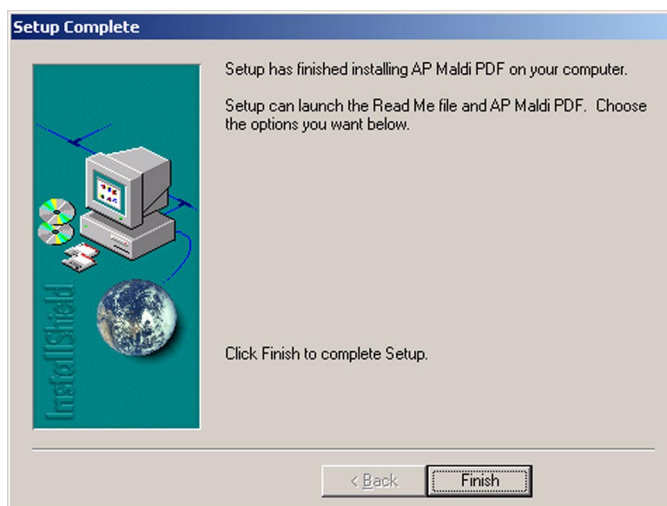

Figure 130 Target software setup completion window
- 6 After the installation has completed, a window displays confirming that the installation has completed successfully. See Figure 130.